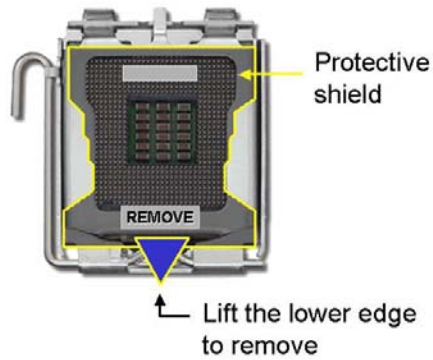

Figure 4-5: Remove the CPU Socket Protective Shield
Step 4: Remove the protective cover. Remove the black protective cover by prying it off the load plate. To remove the protective cover, locate the “**REMOVE**” sign and use the fingernail to pry the protective cover off. (See Figure 4-5)